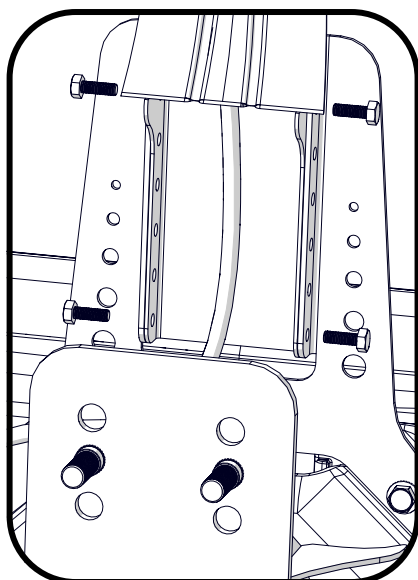

Figure 5
5. Slide the extension assembly into the base and adjust the brake light height until it looks like it will clear your tire, then loosely install 2 or 3 bolts to hold the assembly in place. (Figure 5)